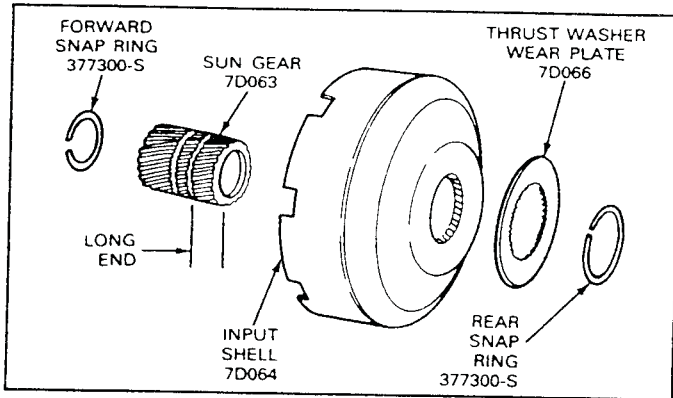

FIG. 54 Input Shell and Sun Gear Disassembled
2. Remove the thrust washer wear plate from the input shell and sun gear (Fig. 54).
1. Install the forward snap ring on the forward end (short end) of the sun gear (Fig. 54). Working from inside the input shell, slide the sun gear and snap ring into place making sure that the longer end is at the rear (Fig. 54).